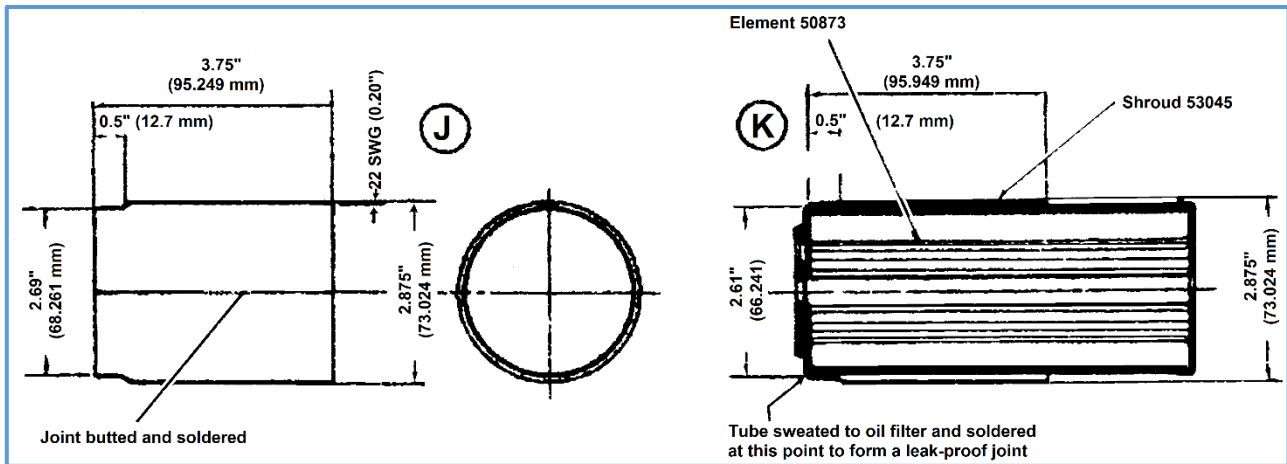

Figure 3b. Vokes oil filter element modification.
3. Butt solder the shroud, Part Number 53045, as shown at (J) *Figure 3b*, and after removing the three lugs from filter element front plate, sweat the shroud to the front plate in the position shown at (K) *Figure 3b*.